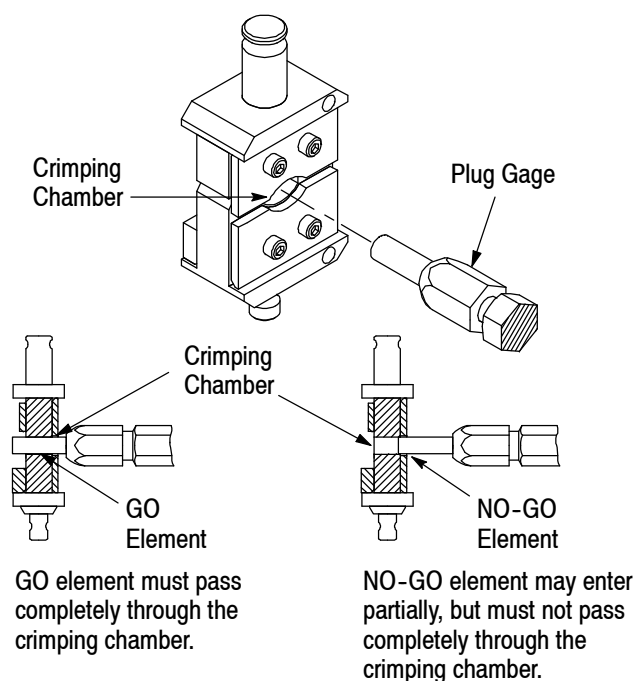

Figure 10
2. Align the GO element with the crimping chamber. Push element straight into the crimping chamber without using force. The GO element must pass completely through the crimping chamber as shown in Figure 10.
3. Align the NO-GO element and try to insert it straight into the crimping chamber. The NO-GO element may start entry but must not pass completely through as shown in Figure 10.